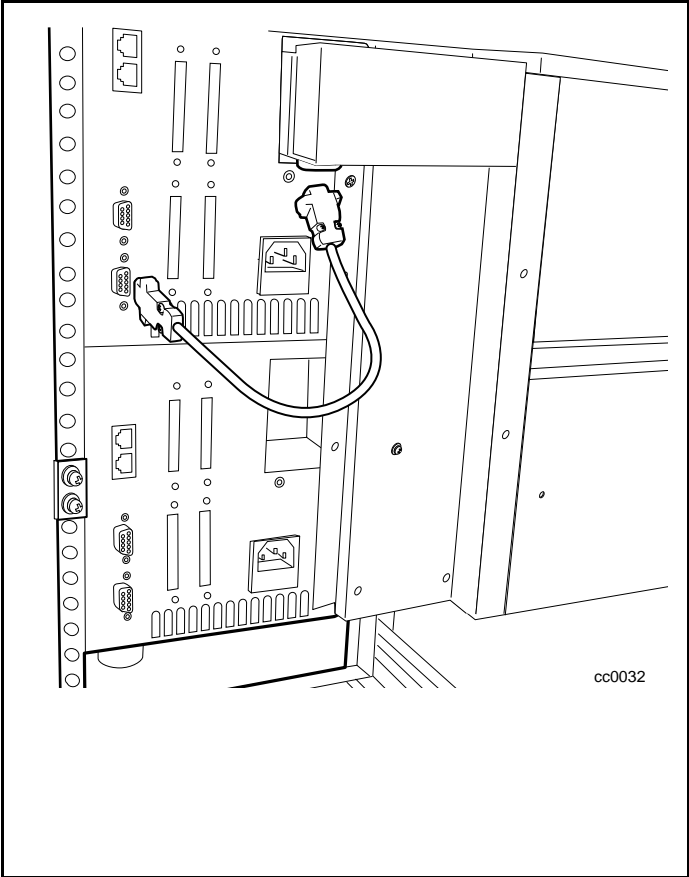

Figure C-32. Connecting to the PTM motor housing assembly
1. Connect one end of the control cable to the connector in the PTM motor housing assembly (see Figure C-32).
2. Connect the other end of the control cable to the connector on the master unit (see Figure C-32).